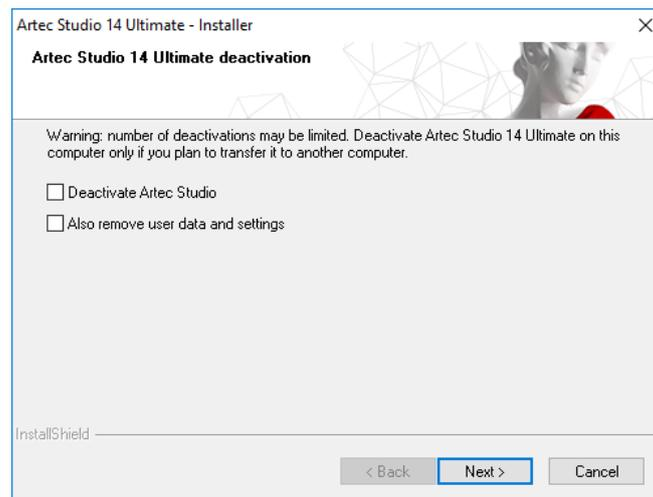

Figure 23: Deactivation of Artec Studio.
3. The dialog shown in **Figure 23** will appear. Select the *I understand. Deactivate Artec Studio* checkbox.